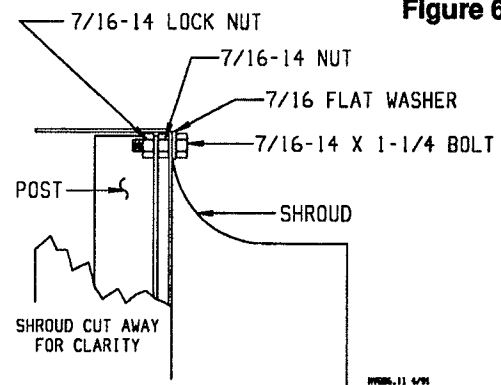

Figure 6.
10. As shown in Figure 6, fasten each post to the shroud using two (2) 7/16-14 x 1 1/4 bolt, flat washer, 7/16-14 non-locking nut, and a 7/16-14 locknut. The 7/16 flat washer and non-locking nut must be installed as shown.